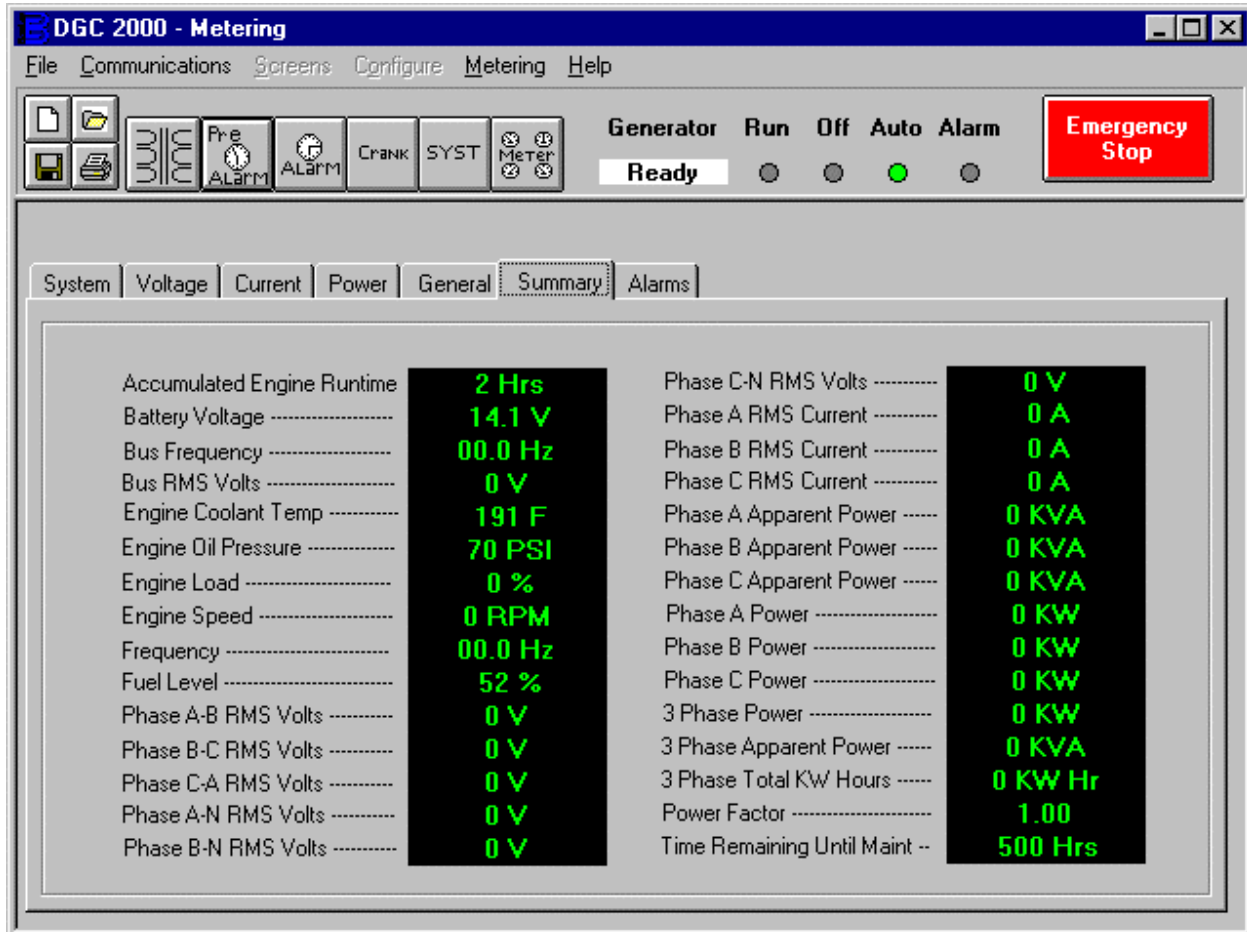

Figure 7-18. Metering Screen
*Metering.* The metering is separated into six different screens. There is one screen **Summary** that shows all the available metering values from the DGC 2000 (Refer to Figure 7-18). The other five screens have a detailed subset of these metering values available. To enable metering you must be logged onto a unit and then open the **Metering** menu and select enable metering. If you are not on the metering screen the program will change to the metering screen and start updating the values. When metering is disabled all of the metering screens will be grayed out showing they are inactive.